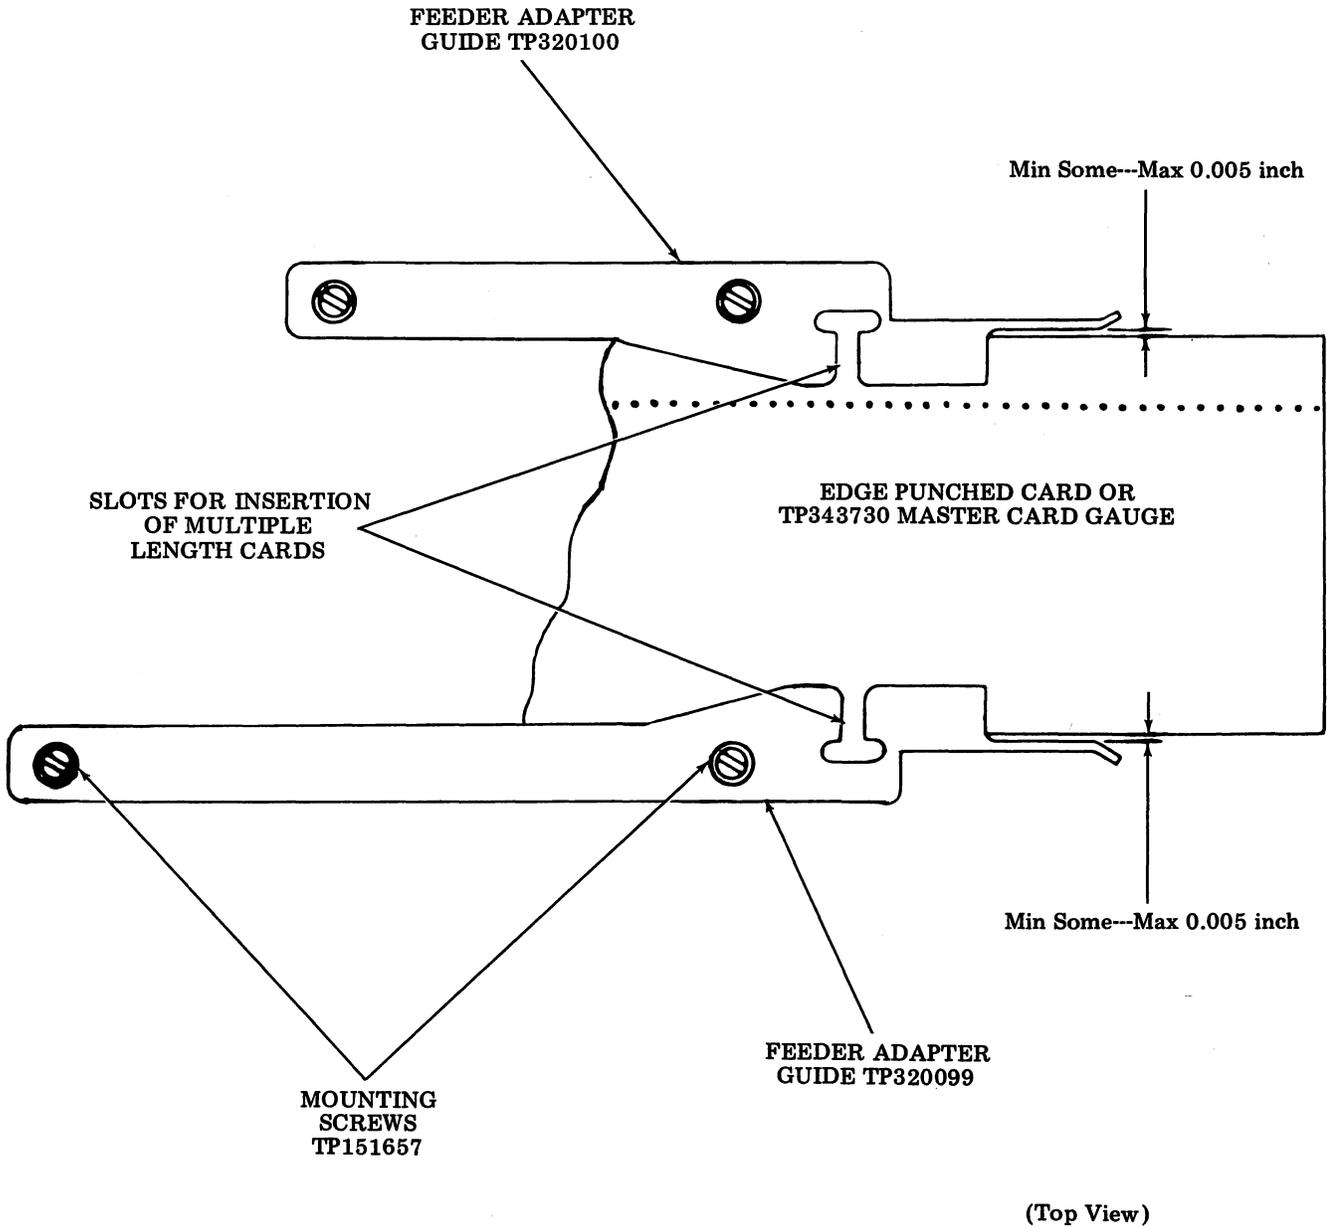

Figure 6 - Feeder Adapter Guides Mounted on Reader Unit
(c) Remove the TP321617 (right) and TP321619 (left) card guides from the reader top plate, and replace them with the TP320099 (right) and TP320100 (left) feeder adapter guides (Figure 6) supplied in cloth bag. Tighten the guide mounting screws friction tight.
(d) Manually insert the TP343730 master card gauge between the feeder adapter guides on the reader top plate as shown in Figure 6.
(e) Adjust the left and right adapter guides to provide clearance of some to 0.005 inch on either side of the master card gauge (Figure 6). Tighten the adapter guide mounting screws and remove the master card gauge from the reader.
- (c) Remove the TP321617 (right) and TP321619 (left) card guides from the reader top plate, and replace them with the TP320099 (right) and TP320100 (left) feeder adapter guides (Figure 6) supplied in cloth bag. Tighten the guide mounting screws friction tight.
- (d) Insert an edge punched card between the feeder adapter guides on the reader top plate as shown in Figure 6.
- (e) Adjust the left and right adapter guides to provide clearance of some to 0.005 inch on either side of the card (Figure 6). Tighten the adapter guide mounting screws and remove the card from the reader.
3.08 Multiple length cards may be fed into the card reader while it is attached to the feeder. Slots are provided in the feeder adapter guides TP320099 and TP320100 for this purpose (Figure 6).